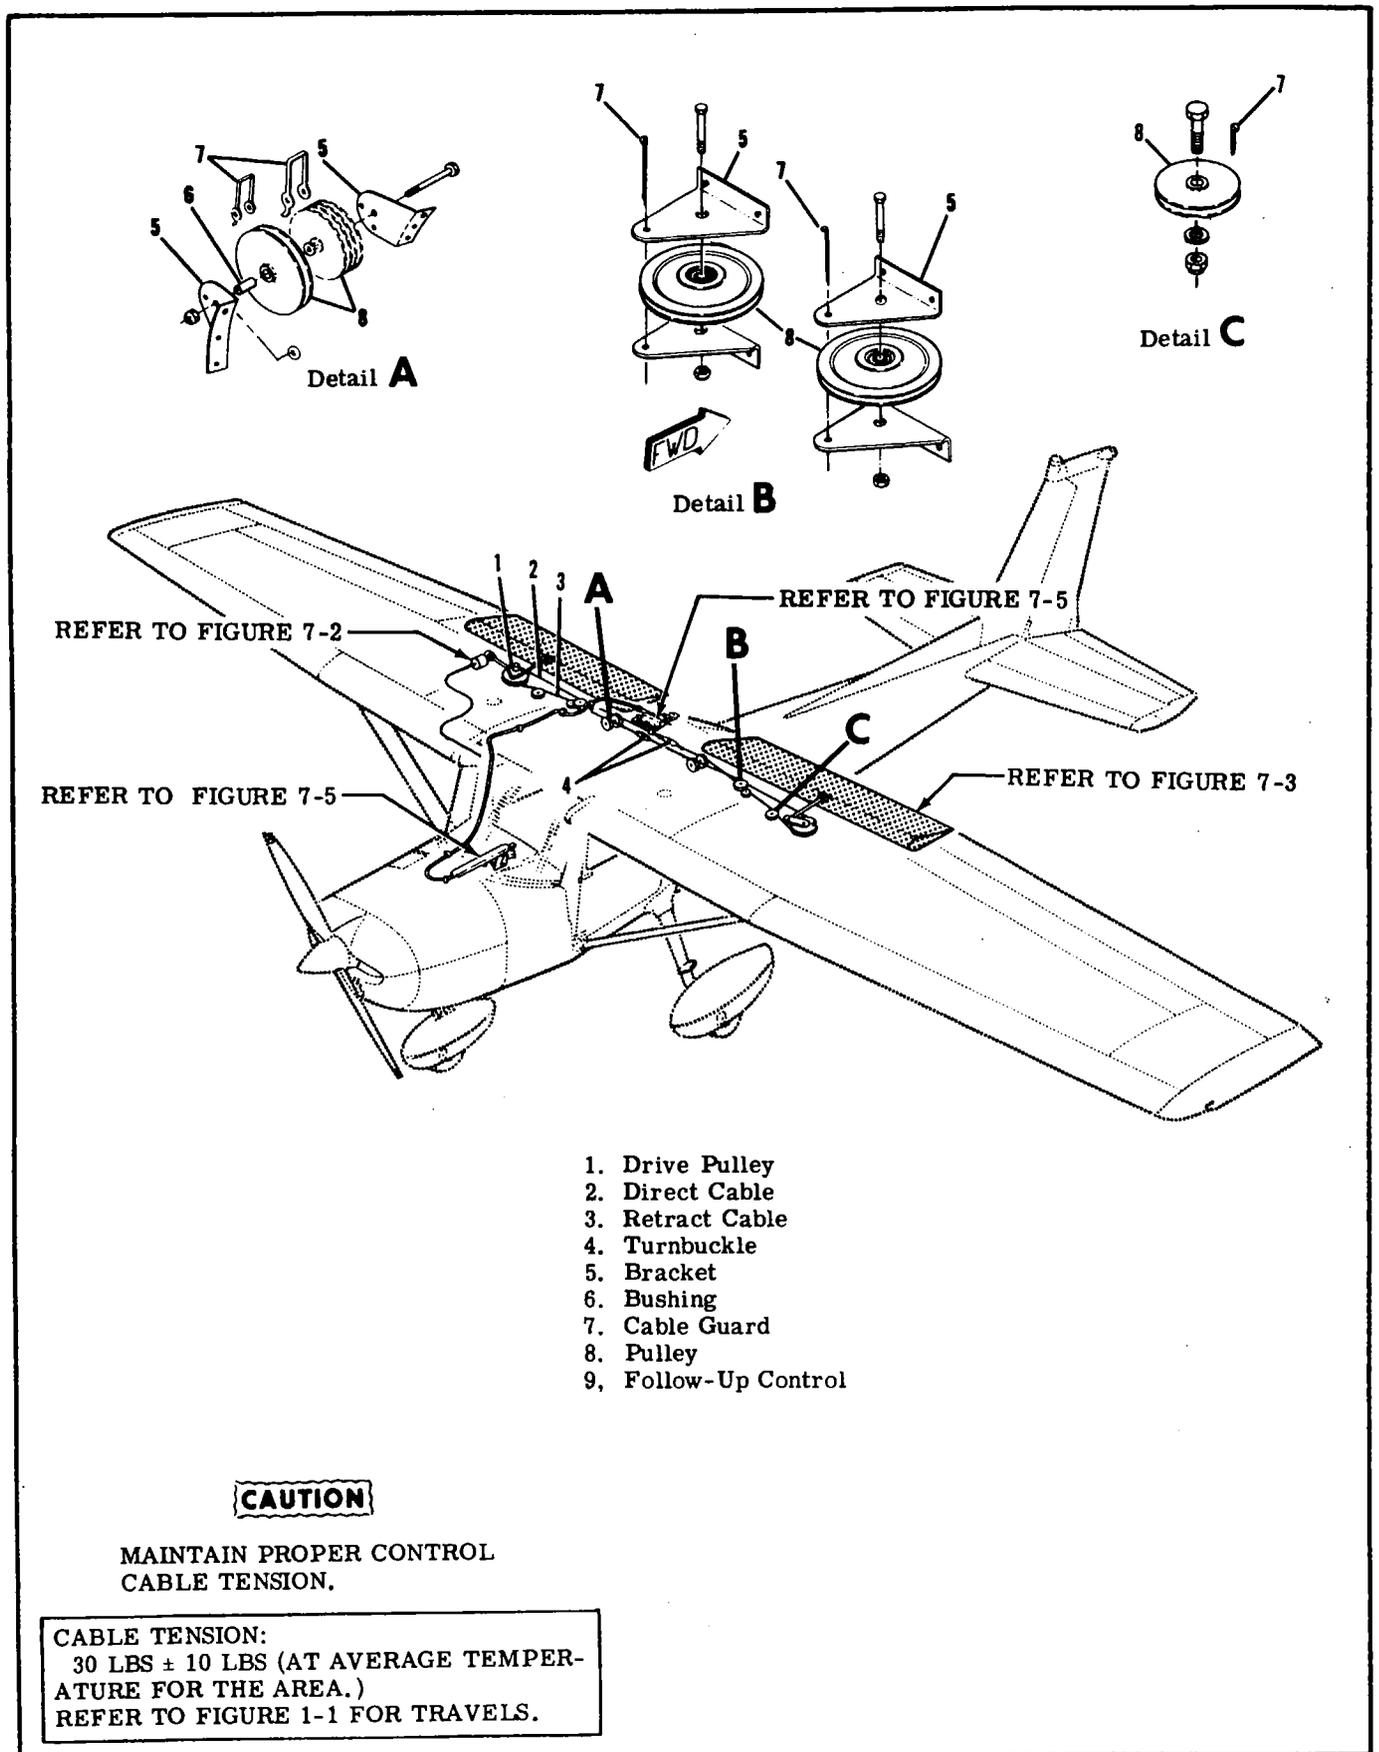

Figure 7-1. Wing Flap Control System
7-1. WING FLAP CONTROL SYSTEM. (Refer to figure 7-1.)
- a. Remove access plate adjacent to drive pulley (14) in right wing.
- b. Unzip or remove headliner as necessary for access to turnbuckles (index 4, figure 7-1), remove safety wire and loosen turnbuckles.
- c. Remove bolt (20) securing flap push-pull rod (15) to drive pulley (14) and lower RIGHT flap gently.
- d. Remove bolt (21) securing actuating tube (5) to drive pulley (14) and lower LEFT flap gently. Retain bushing.
e. Remove cable locks (13) securing control cables to drive pulley (14). Tag cables for reference on reinstallation.
f. Remove bolt (12) attaching drive pulley (14) to wing structure.
7-14. CABLES AND PULLEYS. (Refer to figure 7-1.)
- a. (Refer to figure 7-1.) Unzip or remove headliner as necessary for access to turnbuckles (4).
- c. (Refer to figure 7-1.) Remove safety wire, relieve cable tension, disconnect turnbuckles (4) and carefully lower left flap.
Temporarily connect cables at turnbuckles (index 4, figure 7-1) and test flaps by hand to ensure both flaps extend and retract together. If they will not, the cables are incorrectly attached to the drive pulleys. Ensure that the right drive pulley rotates clockwise when viewed from below, as the flaps are extended. Tag cables for reference and disconnect turnbuckles again.